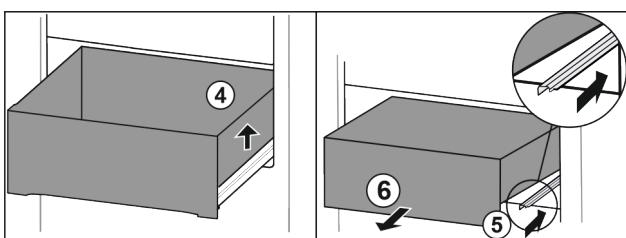

Fig. 114
- Lift drawer on the right. Fig. 114 (4)
- Insert right rail. Fig. 114 (5)
- Remove drawer to the front. Fig. 114 (6)